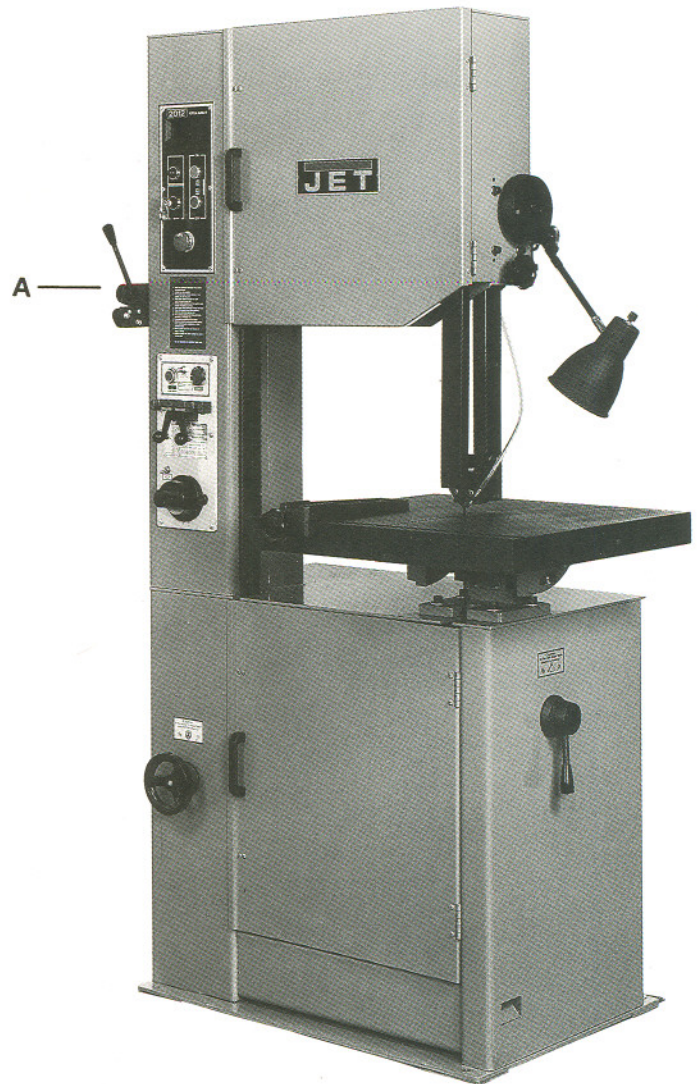

Fig. 1
3. Remove two hex cap screws from left side of the vertical column. Attach shear assembly (A) to column by inserting hex cap screws. Figure 1.